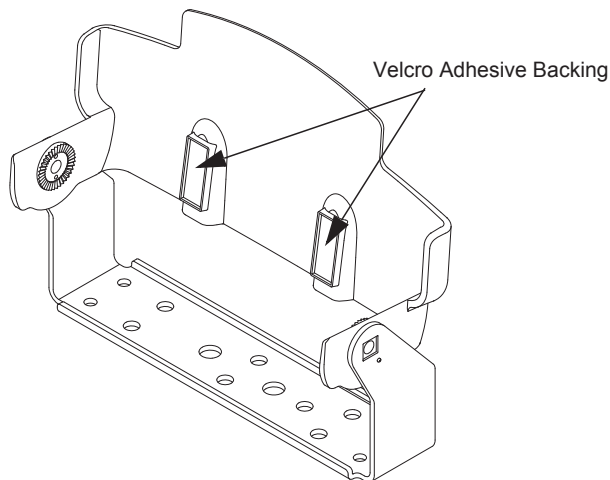

Figure 5-20. Position the Sunshield
2. Position the sunshield as shown in Figure 5-20 and remove the Velcro adhesive backing.